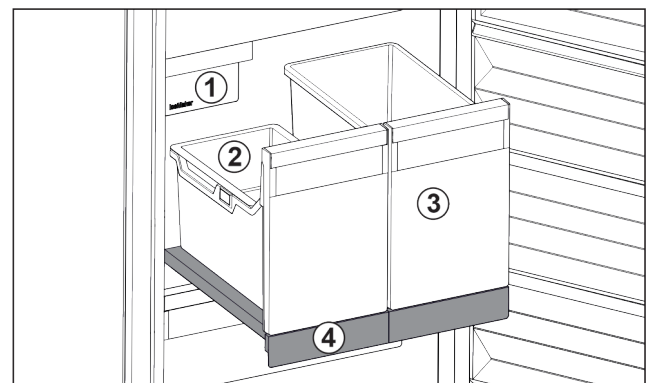

Fig. 25 Pull-out board with IceTower
There are two high (IceTower) containers on the pull-out board. Ice cubes from the IceMaker are collected and stored in the Fig. 25 (2) container. The container Fig. 25 (3) is suitable for storing tall foodstuffs or beverages such as pizzas or alcoholic drinks.